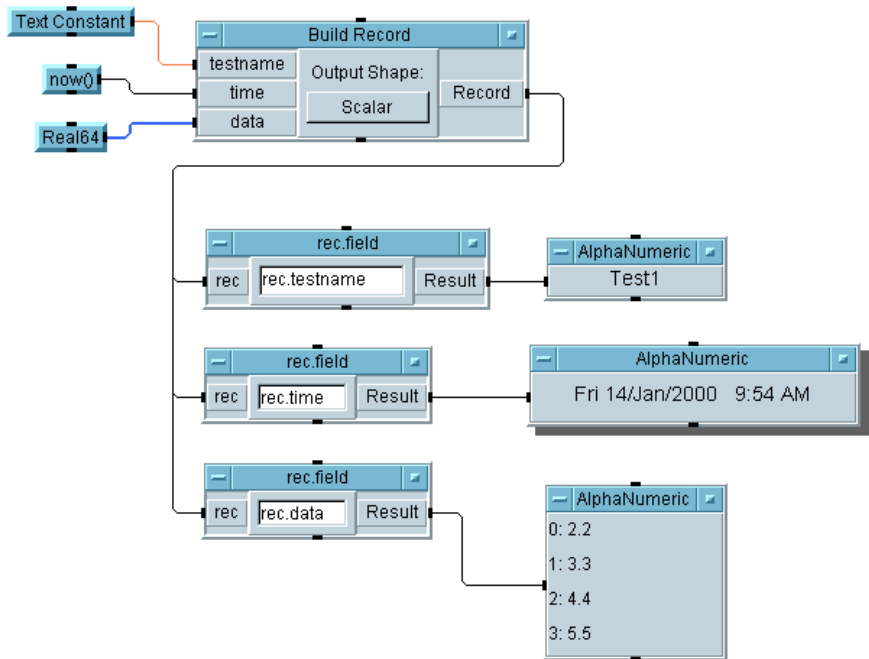

Figure 5-11. Using the Get Field Object
9. Run the program and save it as `getfield.vee`. The program should look like Figure 5-11.